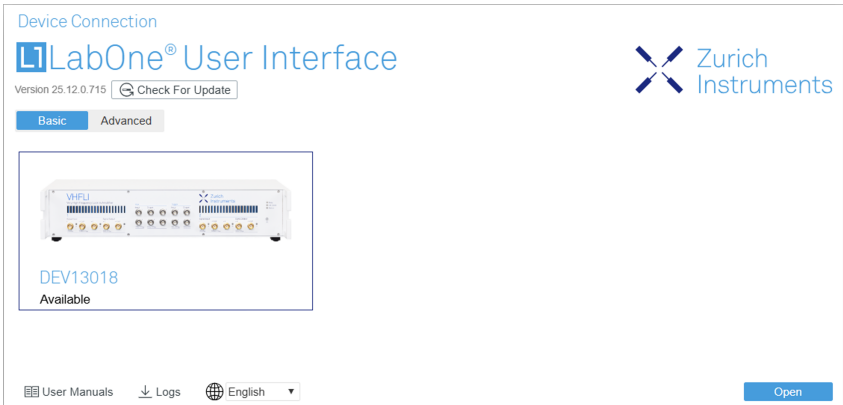

Figure 2.12: Device Connection dialog
3. You can now start the LabOne User Interface as described in Subsection 2.5.5, "LabOne Software Start-up", on page 16 and choose an instrument to connect to via the Device Connection dialog shown in Figure 2.12, "Device Connection dialog", on page 17.
After starting LabOne, the Device Connection dialog Figure 2.12 on page 17 is shown to select the device for the session. The term "session" is used for an active connection between the user interface and the device. Such a session is defined by device settings and user interface settings. Several sessions can be started in parallel. The sessions run on a shared LabOne Web Server. A detailed description of the software architecture can be found in the Subsection 2.5.1, "LabOne Software Architecture", on page 15 .
In this case the browser is no longer able to connect to the LabOne Web Server. This can happen if the Web Server and Data Server run on different PCs and a network connection is interrupted. As long as the Web Server is running and the session did not yet time out, it is possible to just attach to the existing session and continue. Thus, within about 15 seconds it is possible with **Retry** to recover the old session connection. The **Reload** button opens the Device Connection dialog shown in Figure 2.12 on page 17. The figure below shows an example of the Connection Lost dialog.
If a session error cannot be handled, the LabOne Web Server will restart to show a new Device Connection dialog as shown in Figure 2.12 on page 17. During the restart a window is displayed indicating that the LabOne User Interface will reload. If reloading does not happen the same effect can be triggered by pressing F5 on the keyboard. The figure below shows an example of this dialog.